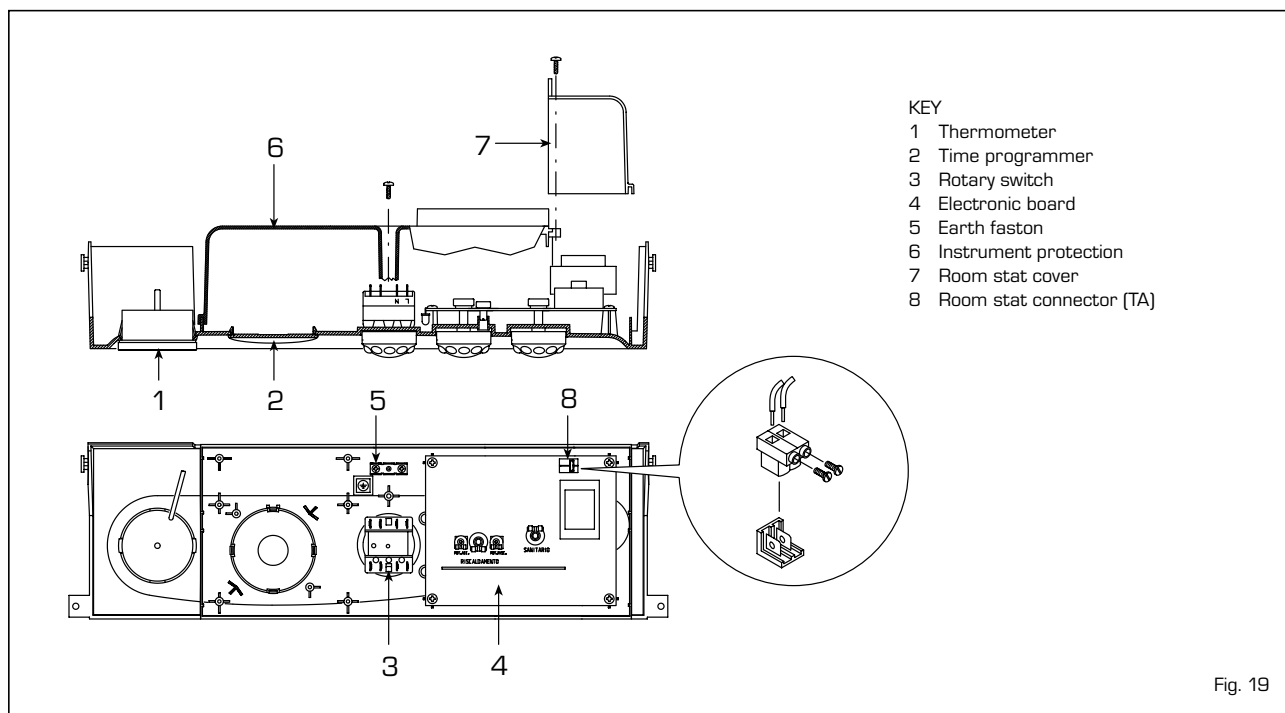

Fig. 19
2.10.2 Room stat connection (fig. 19)
2.10.1 Control board (fig. 19)